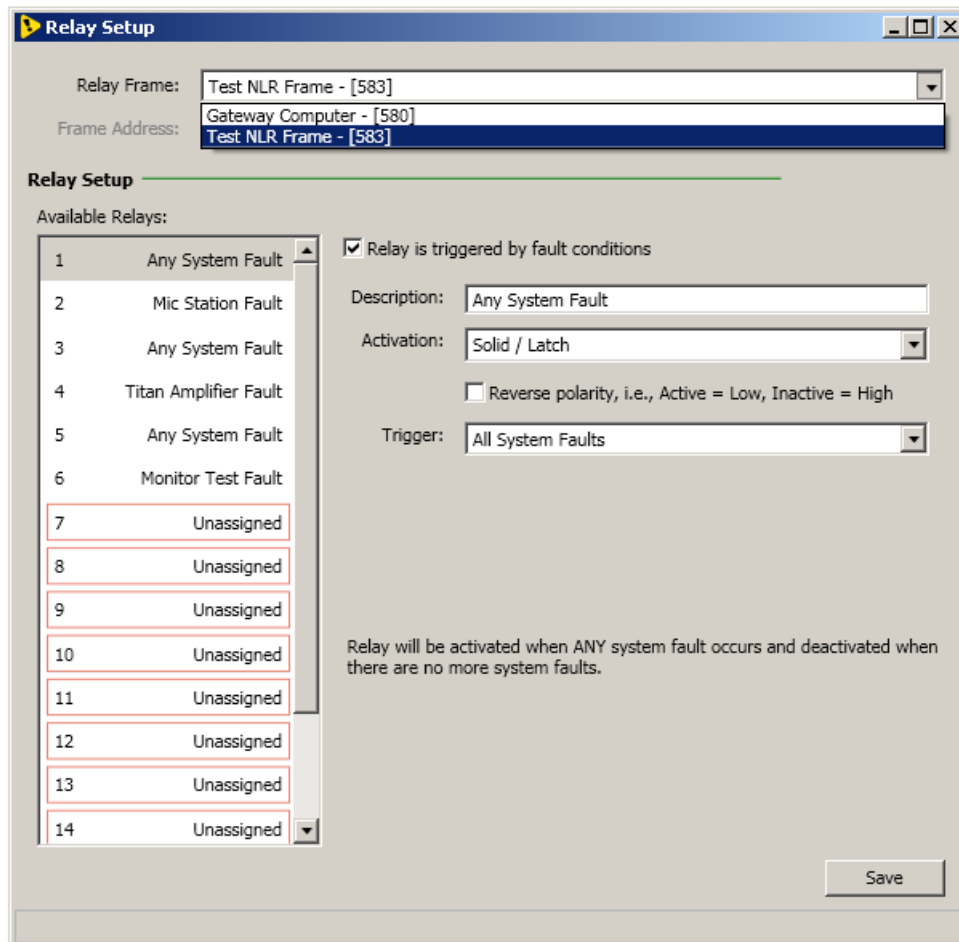

Figure 7: Relay Setup Window
The Relay Setup window allows one to set up relays to trip when fault and clear conditions occur. Figure 7 shows a typical Relay Setup window. The window has two parts. The top part allows selection of a relay device, and the bottom part, grouped under the *Relay Setup* heading, allows setting up individual relays on the frame.
- *All System Faults* (see Figure 7) – Trip the relay on any fault in the system. This would be a “general fault” relay.